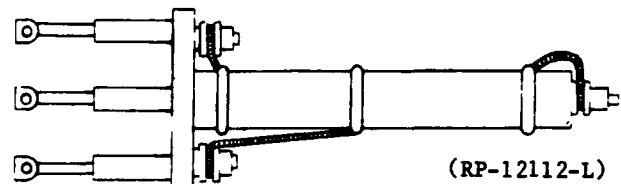

FIG. 5 METHOD FOR MOUNTING 60 TYPE RESISTORS
3.6 Mount 60 type resistor as shown in Figure 5.